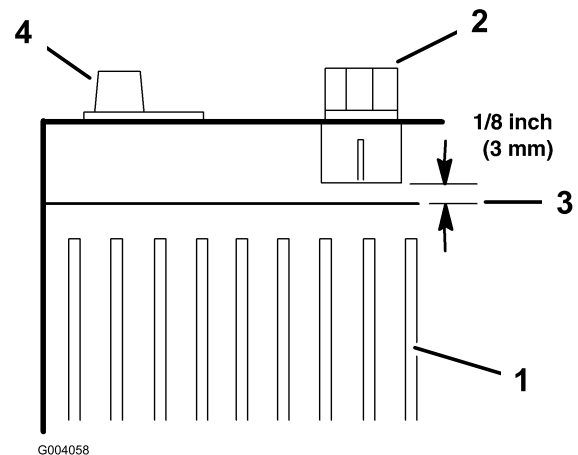

Figure 37
7. Add just enough distilled water to bring the electrolyte level to 3 mm (1/8 inch) below the bottom of each fill well (Figure 37).